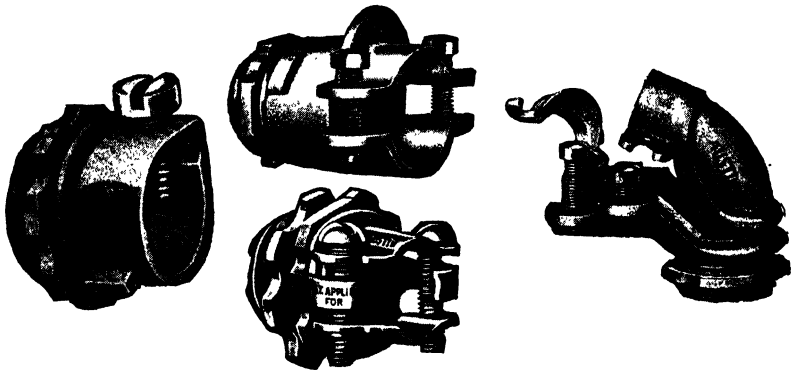
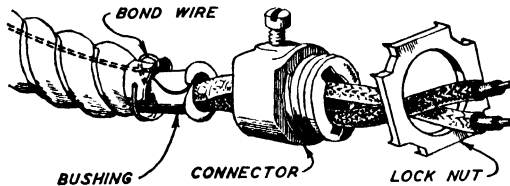

Fig. 9. Outlet Box Connectors
Fig. 19. Method of Inserting Fiber Bushing, and Connector on Armored Cable
thereto in the same manner. An alternative method of securing the cable to the box is by the use of outlet box connectors, Fig. 9.
Outlet box connectors are used for securing the cables to the outlet boxes, as an alternative to the use of cable clamps within the boxes. They come in many types, shapes, and sizes, several of them being shown in Fig. 9. At one end there is a standard conduit thread for the locknut; some come with hexagon locknuts, requiring pliers or a wrench for tightening them. Others come with locknuts of the drive type; these have notches in the edge, which permit them to be set up with a hammer and screw driver or other blunt tool, an advantage in close quarters. Sizes range from  $\frac{1}{2}$  inch conduit on up, increasing by regular conduit sizes,  $\frac{3}{4}$  inch, 1 inch, etc., for the larger cables. This means that they will fit the standard conduit knockout openings.
The other end of the connector is slipped over the cable, bond wire (when used), and the fiber bushing, Fig. 19. Turning the set-screw provides the grip on the cable. The clamp type connector, Fig. 9, provides a better hold on the cable and can be used with either
**Attaching Connectors.** Put on the box connector, sliding it down over the armor until the latter is against the shoulder, or stop inside of the body of the connector; and then tighten up the set-screw, firmly securing the cable and connector together. Next, remove the lock-nut from the end of the connector, Fig. 19, insert the wires and